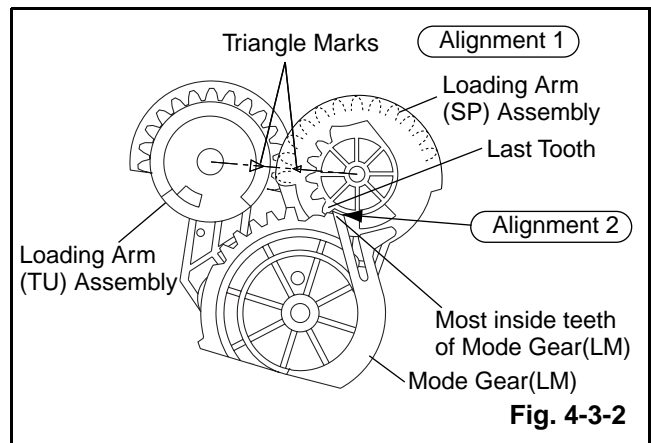

Fig. 4-3-2
Install Loading Arm (SP) and (TU) Assembly so that their triangle marks point to each other as shown in Fig. 4-3-2.
Keeping the two triangles pointing at each other, install the Loading Arm (TU) Assembly so that the last tooth of the gear meets the most inside teeth of the Mode Gear. See Fig. 4-3-2.